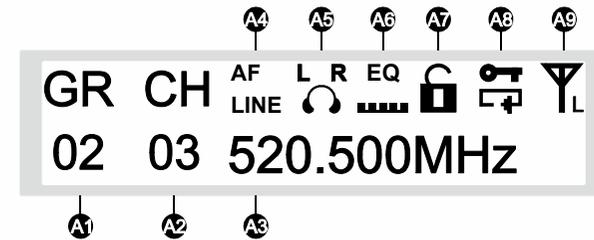

Fig. 5
1. LCD Screen Display, Fig. 5: